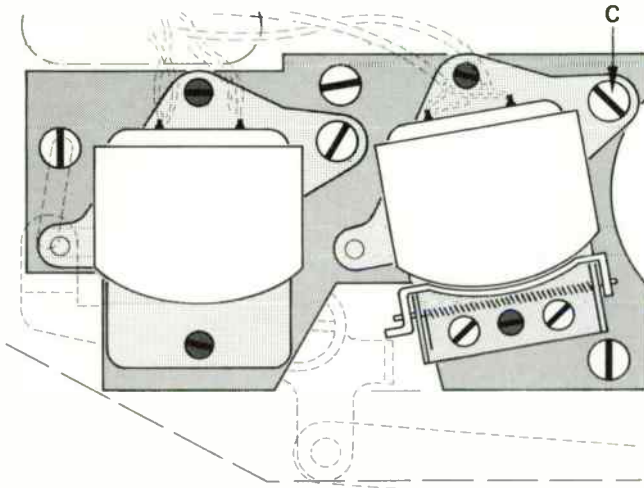

Fig. 6.3-54
- Switch to PLAY and set output voltage to a maximum with screw C (fig. 6.3-54).